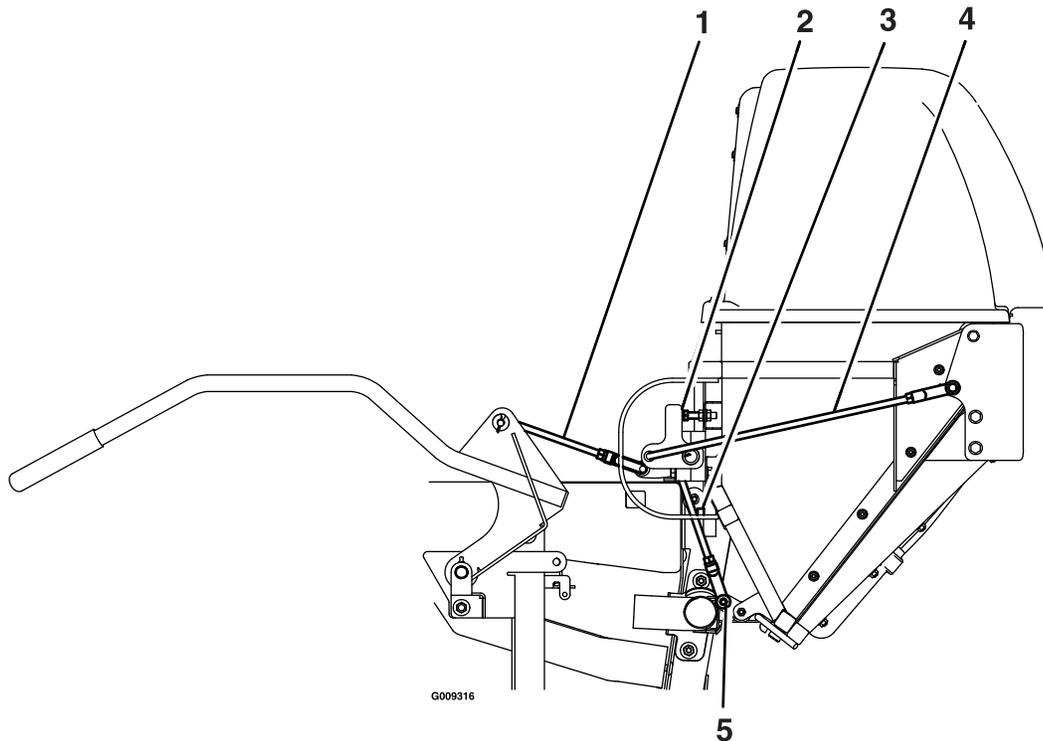

Figure 30
- Door closing:** The closing of the door is controlled by the two hinge links and the two stop screws (see Figure 30). The stop screws should be adjusted so that both will be contacted when the contacting arm is straight up and down. With the stop screws adjusted, the length of the hinge links can be changed to provide complete closing of the door, and reasonable force on the handle to latch or unlatch the door. Lengthen the links to reduce the force. Shorten the links to increase the force. With the door closed, both links should be slightly tight to minimize rattling.
- Door opening:** After adjusting the hinge links for door closing, the handle link can be adjusted to obtain maximum door opening (see Figure 30). Lengthen the link to open the door farther. Shorten the link to open the door less. The maximum door opening is limited by the contacting arm hitting the stop. This stop is non adjustable, and prevents over opening damage from occurring to the linkage.
- Latches:** Once the open and closed positions have been set, the latches can be adjusted (see Figure 30). With the door closed, the latch link should be set so that the latch plate completely engages and contacts the latch rod welded to the door. The latch plates should not be tight against the latch rod. They should easily “wobble”.